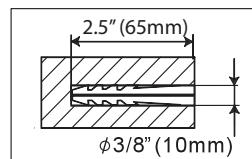
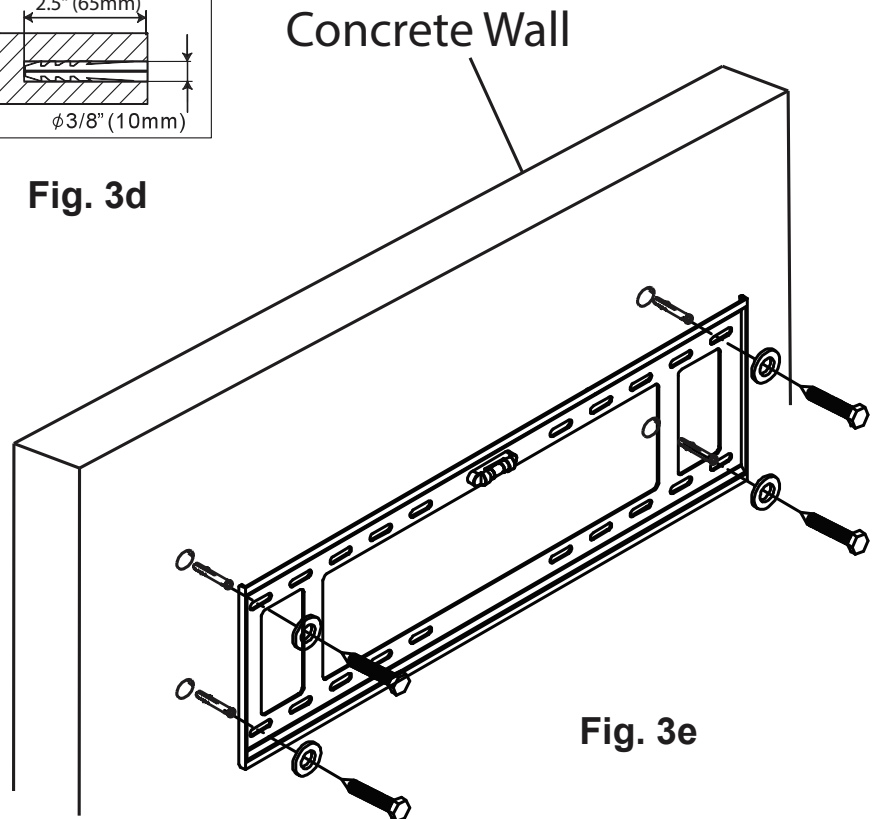

Fig. 3d
Fig. 3e
2. Use 3/8" (10mm) drill bit to pre-drill four holes at least 2.5" inches (65mm) deep (Fig 3d) at the marked locations.
3. Insert a wall anchor (B) into each pre-drilled hole and lightly tap it with a hammer until the wall anchor is flush with the wall.
4. Use a wrench, the four long bolts (A) and washers (C) to attach the wall mount to the wall with the wall anchors (Fig. 3e).